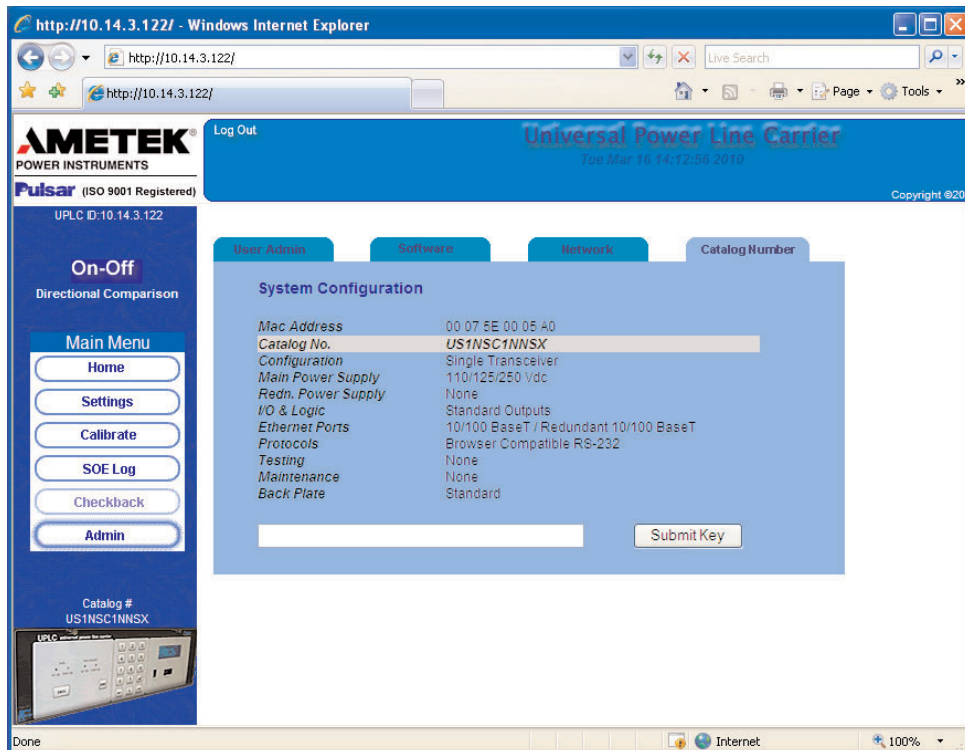

Figure 42. UPLC™ Catalog Number After Update
5. Hit the “Submit Key” to start the process to update the catalog number. You will see a description of the catalog number you are about to install. It should read as shown in Figure 42, with the exception of the receive-only chassis or dual-power-amp chassis, which will change appropriately.